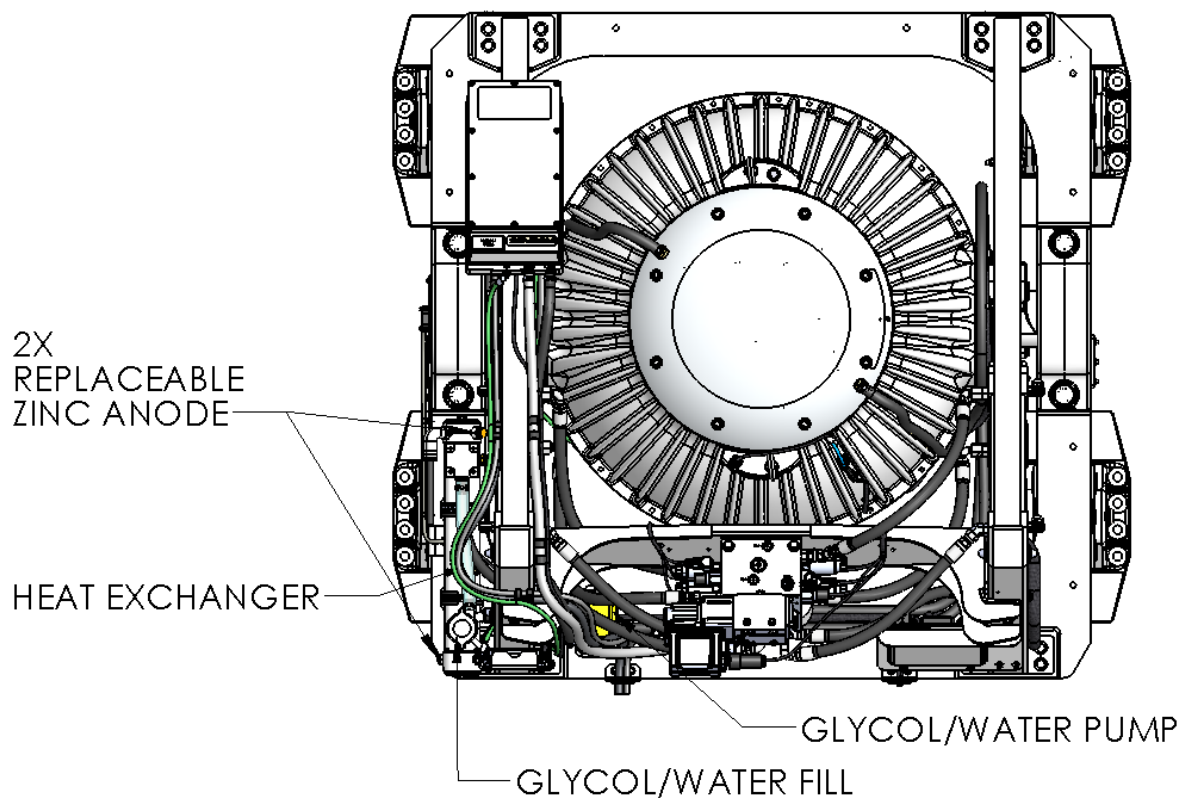

FIGURE 1 – SEAKEEPER 26
- 1) Connect seawater from installer supplied pump to lower 3/4" (19 mm) hose barb on heat exchanger. Use the same practices as other below waterline seawater plumbing. Required flow rate is 4 GPM (16 LPM) minimum and 8 GPM (30.3 LPM) maximum. Refer to Figure 1.
- 2) Connect seawater discharge (upper hose barb) to overboard drain. Use the same practices as other below waterline seawater plumbing. Refer to Figure 1.